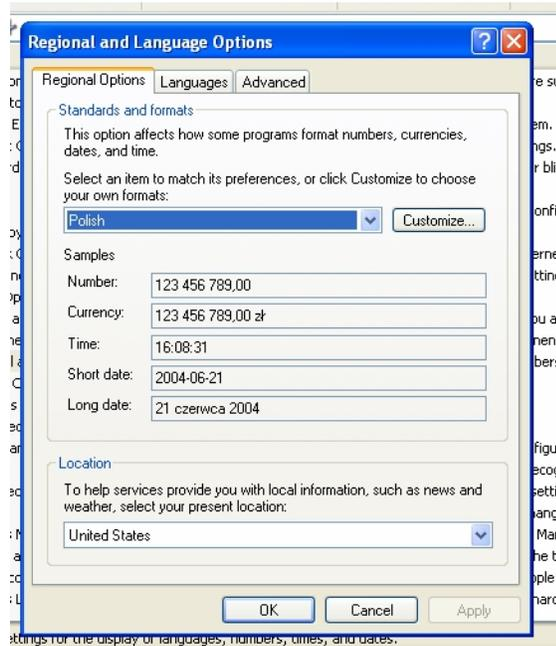

Figure 51: “Regional and Language Options” pop-up window
Step 2: As in Figure 50, select and click on “Regional and Language Options” in the “Control Panel” window. A new pop-up window, “Regional and Language Options” will appear as in Figure 51.